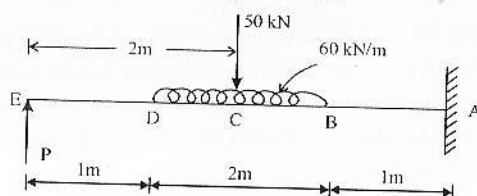

Fig. 3
9. A cantilever 4 m long is supported at the free end by a prop, at the same level as the fixed end. A uniformly distributed load of 60 kN/m is carried along the middle half of the beam, as shown in fig. 3, together with a central concentrated load of 50 kN . Determine the load on the prop and the maximum bending moment in the beam. EI is constant throughout the length of the beam. Use Macaulay's method.